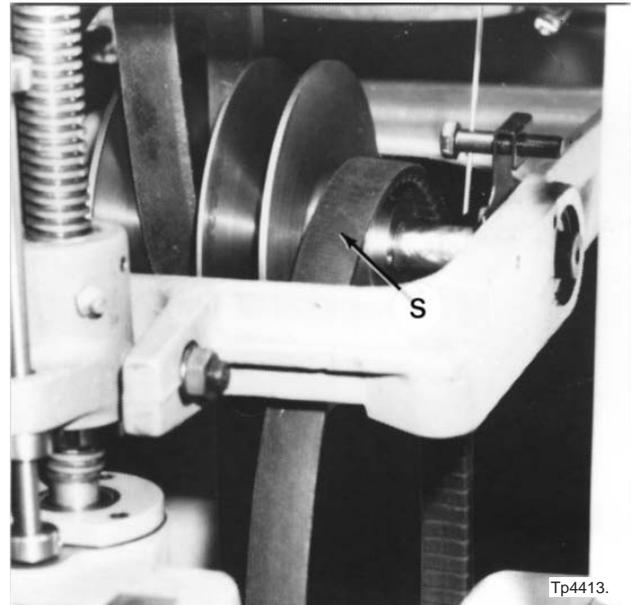

Figure 3.7 - Motor Belt on Pulley Hub
10. Roll motor belt “S”, Figure 3.7, to the right off the pulley and let it rest on the pulley hub, as shown.